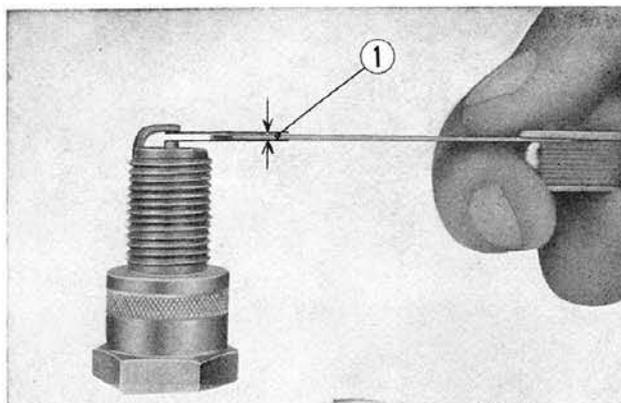

Fig. 7-12 ① Spark plug gap
3. After completing inspection of section 2 adjust spark plug gap to **0.024~0.028 in (0.6~0.7 mm)**. The gap can be measured by a thickness gauge. The adjustment is made by bending the negative (ground) electrode (**Fig. 7-12**)